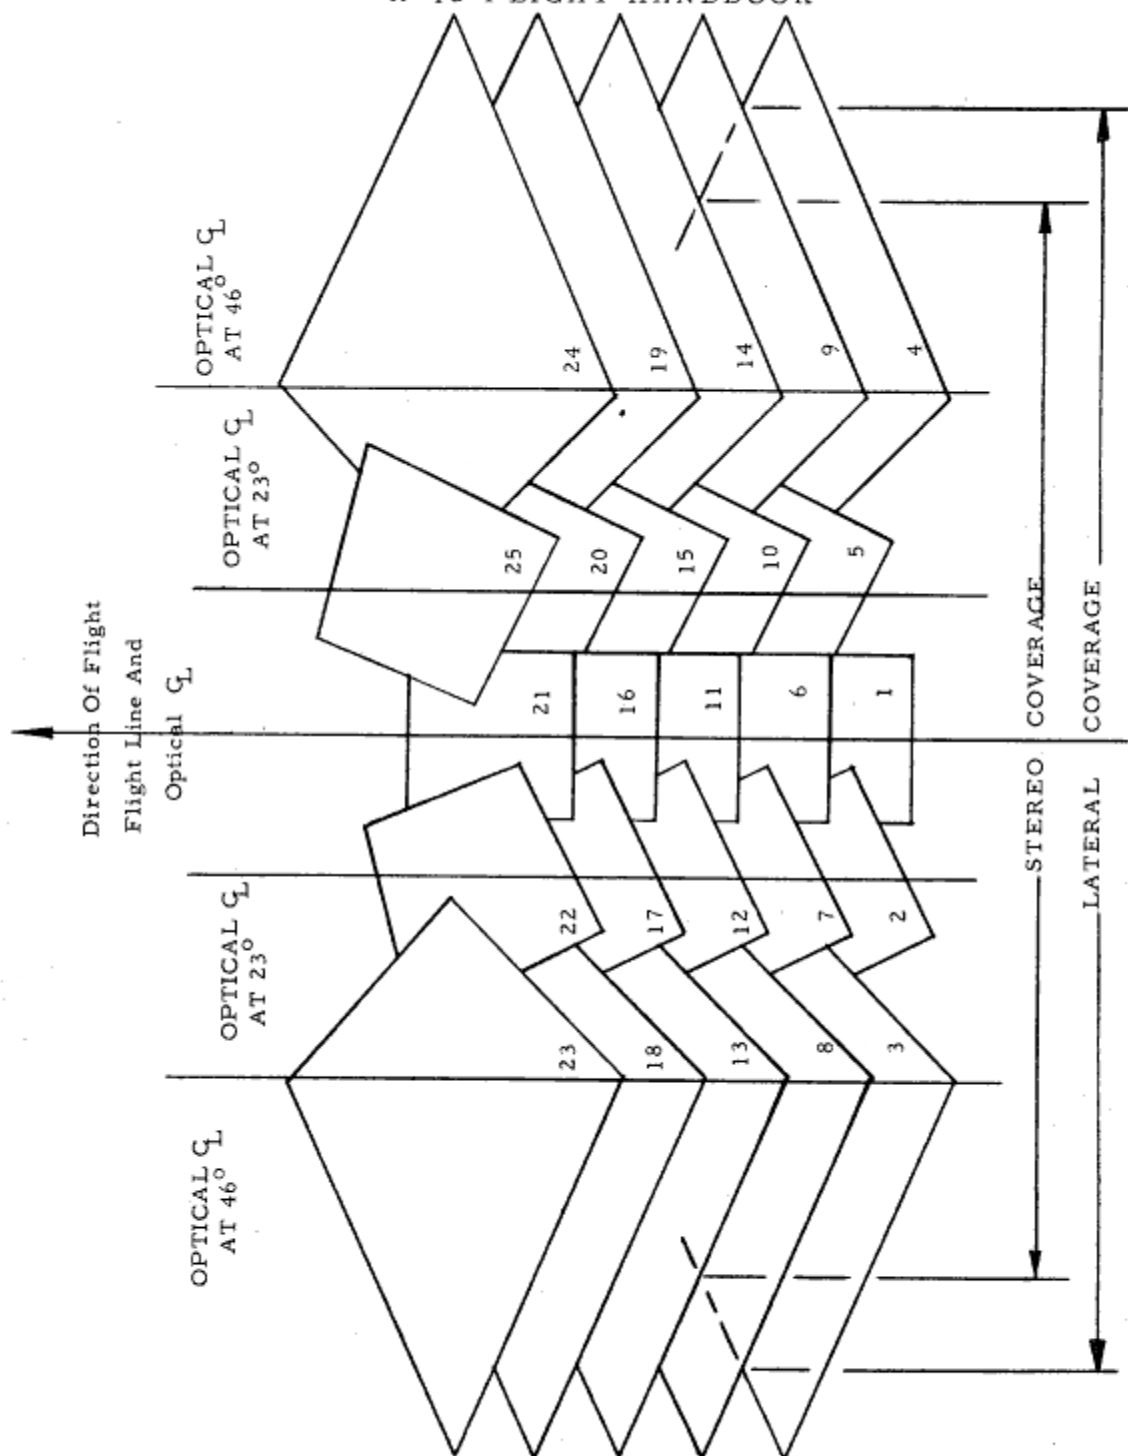

Figure 3-1. Ground Coverage Format, Straight and Level Flight, Type III
3-3. Photographic coverage of the camera system is represented in Figure 3-1. There are two distinct modes of operation with the Type III package. Mode 1 sweeps continuously through the five basic positions while mode 2 photographs continuously at the same rate, however, in a vertical position only. Mode 1 covers approximately  $60^{\circ}$  each side of nadir. Mode 2 covers  $14^{\circ}$  each side of nadir. Each mission can provide 2850 nautical miles flight line coverage on 3900 frames and 51 to 55 nautical miles (or approximately  $120^{\circ}$ ) of total transverse coverage. The scan overlap provides stereo viewing approximately  $53^{\circ}$  each side of nadir or an approximate total of  $106^{\circ}$ . See Figure 3-1.
- 3-19. Results of the Type III camera are sets of photographs in the format shown in Figure 3-1. Each frame contains recorded data and identification of frame position, i. e., one through five. Approximately 3900 photographs with recorded data can be expected from a full film supply of 6000 feet. Individual frame size is 18 inches by 18 inches.